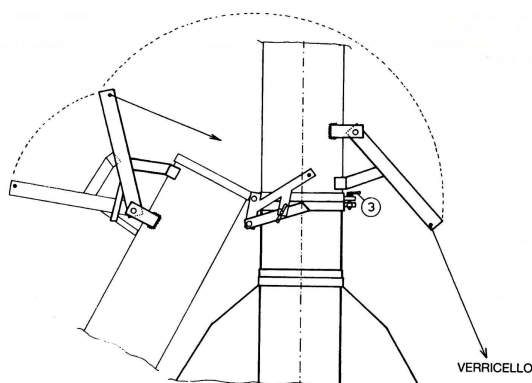

FIG 3B
**step three:** Using the vertical auger winch (beside the control cabinet) **raise** the folding auger into its vertical position. Once the auger is correctly positioned climb the ladder and tighten up the wing nut item 3 in fig 3B.
**step one:** The top section of vertical auger will be supplied loose because of transport height restrictions. The section of auger must first be lifted and connected to the main vertical auger tube using the pivot pin supplied. Then connect the vertical auger winch wire to the top section vertical auger tube. Using the vertical auger winch (mounted at the front of the machine) **raise** the folding auger into its vertical position. Once the auger is correctly positioned climb the ladder and tighten up the wing nut item 3 in fig 3B.
**First Step:** To start the lowering of the top auger extension pull the wire that is positioned at the rear of the dryer and has at its end a triangle steel pull handle. Important you must undo the wing nut item 3 in fig 3b first and loosen the vertical auger winch 3-4 rotations.